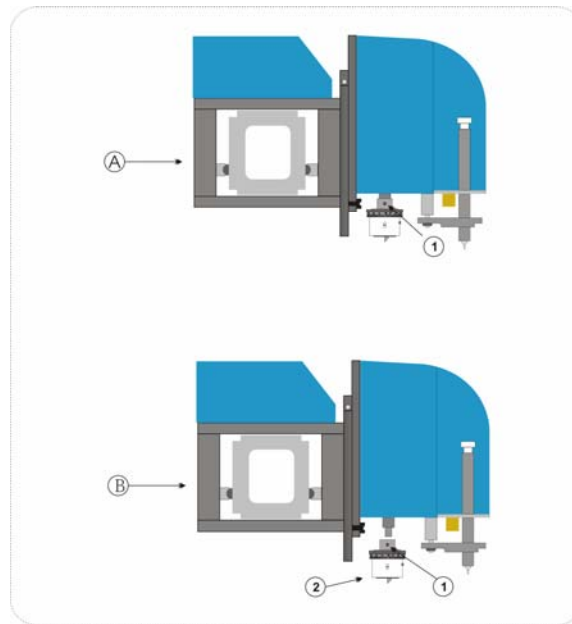

Figure 8 – Exchange of the cutting and creasing tools
The change of the cutting (creasing) tools is shown on figure 8.
- Unscrew the fixing screw of the cutting (creasing) tool- figure 8, situation „A” and „B”, step 1.
- Change the cutting (creasing) tool of the toolhead by pulling down – figure 8, situation „B”, step 2.
- Put the new cutting (creasing) tool on the toolhead - figure 8, situation „B”, step2;
- Clamp the fixing screw of the cutting (creasing) tool- figure 8, situation „A” and „B”, step1;